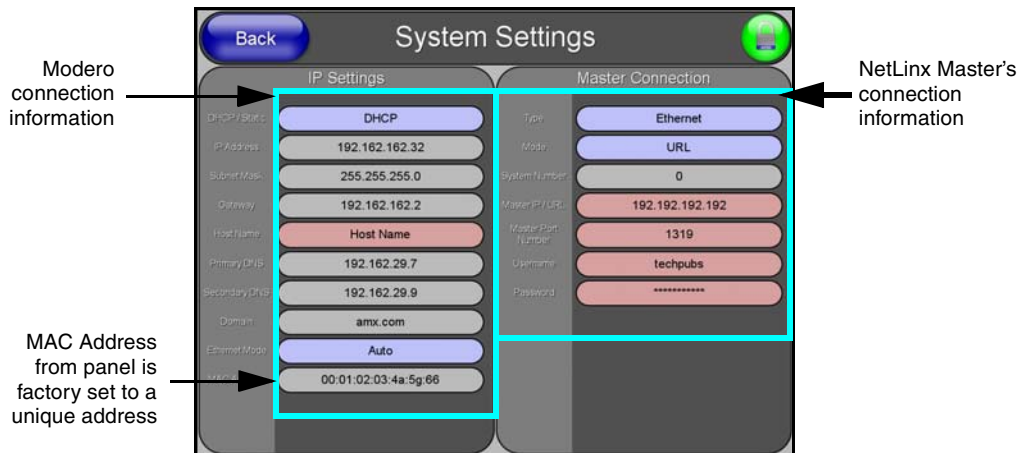

FIG. 73 System Settings page
- Press the **System Settings** button (located on the Protected Setup page) to open the System Settings page (FIG. 73) and begin configuring the communication settings on the panel to match those of the target Master.